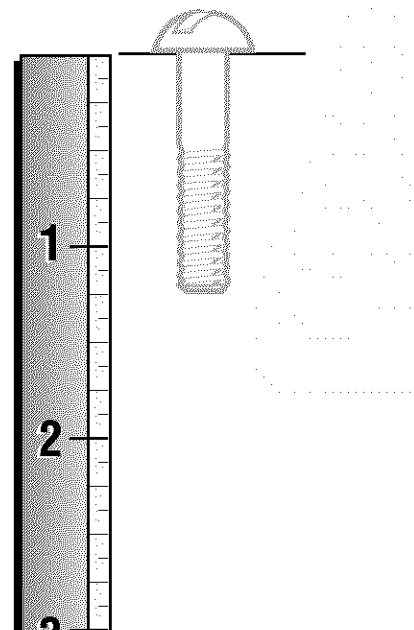

Figure 2-1: To identify length of screw, place screw on template as shown and measure distance between bottom of screw head and tip of screw.
3. Remove all unassembled parts and the separate hardware bag from the carton. Check that you have the items listed below (contact your local dealer or the factory if any items are missing or damaged). NOTE: Use the screw length template (Fig. 2-1) to identify screws.